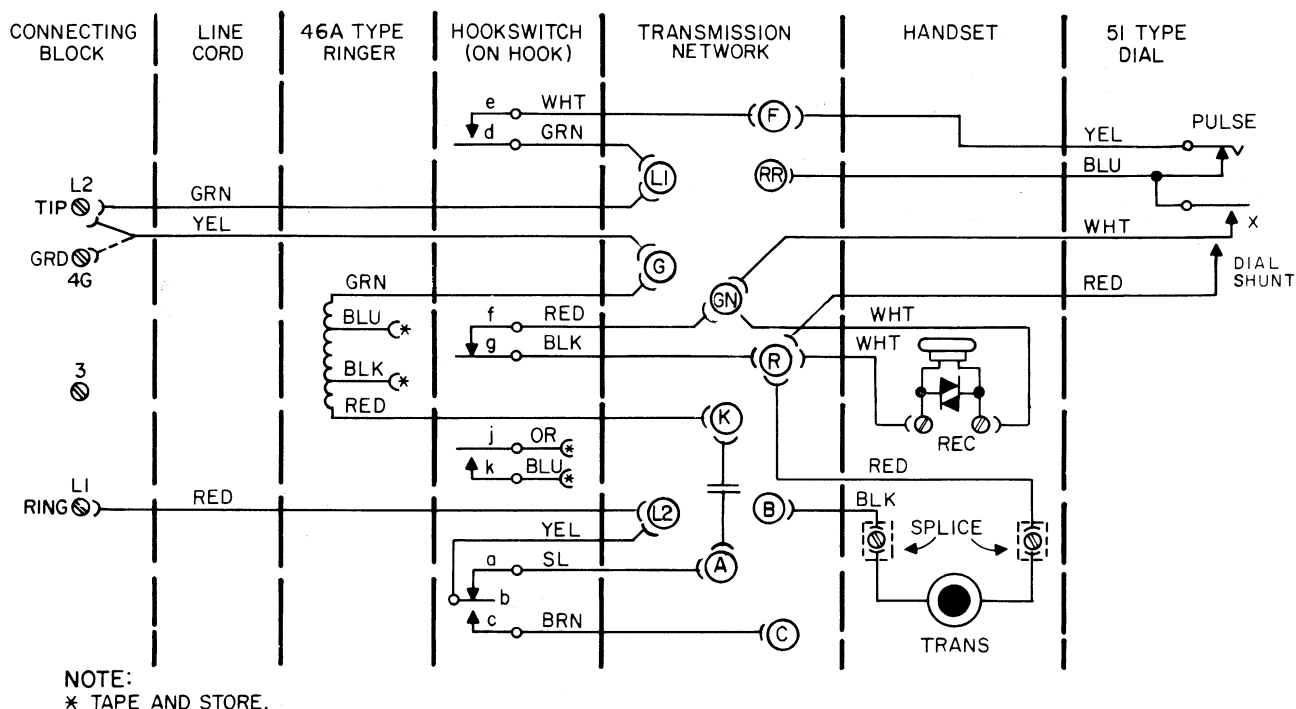

Figure 10. Typical Wiring Diagram of Specialty Telephones Equipped with Stromberg-Carlson Components.
4.06 Typical wiring diagrams of telephones with various GTE Automatic Electric transmission networks are shown in Figures 5 through 9. A typical wiring diagram of the Stromberg-Carlson transmission network is shown in Figure 10.